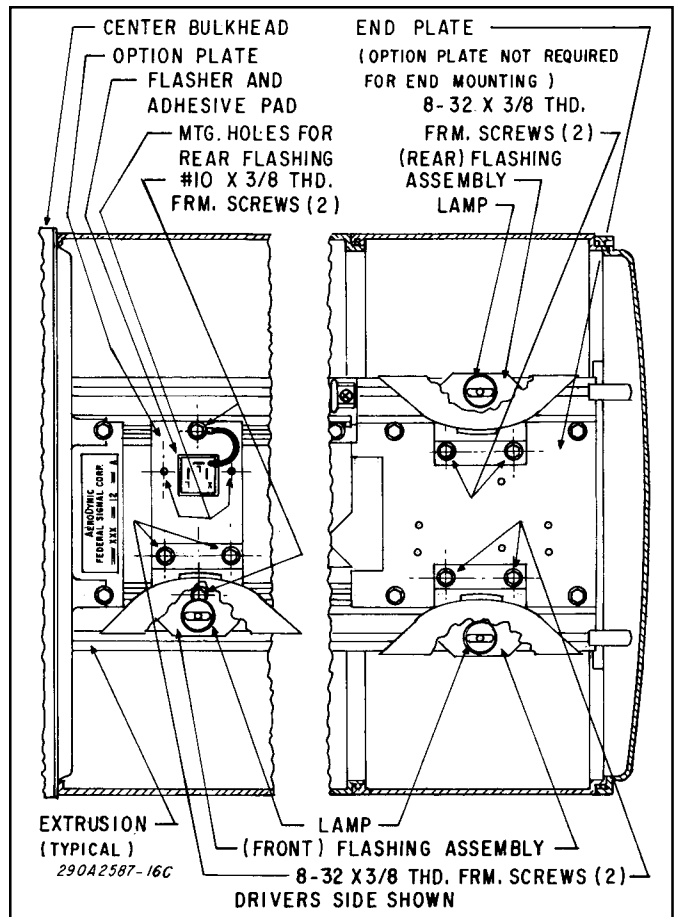

Figure 2.
If the outermost location is selected, discard the option plate and secure the reflector assembly to the end plate with two #8-32 hex head thread-forming screws as shown in figure 2.
3. See figure 2. Position an option plate at the selected location. Position a reflector assembly, facing the front or rear as required, over the holes on the option plate. Temporarily install the dome and ensure that the reflector is aligned with the center of the dome insert. Remove the dome and secure the option plate to the extrusion with two #10 hex head thread-forming screws. Secure the reflector assembly to the option plate with two #8-32 hex head thread-forming screws. Repeat for the other side.
4. Locate the proper position for mounting the supplied flasher (figure 2). Remove the backing from one side of the adhesive pad (supplied) and affix the pad to the flasher. Remove the backing from the other side of the adhesive pad. Affix the flasher and pad in the desired position. Attach the ground wire from the flasher to the extrusion using the lockwasher and the #10 screw used to mount reflector (figure 2), ensuring it makes a good electrical ground.